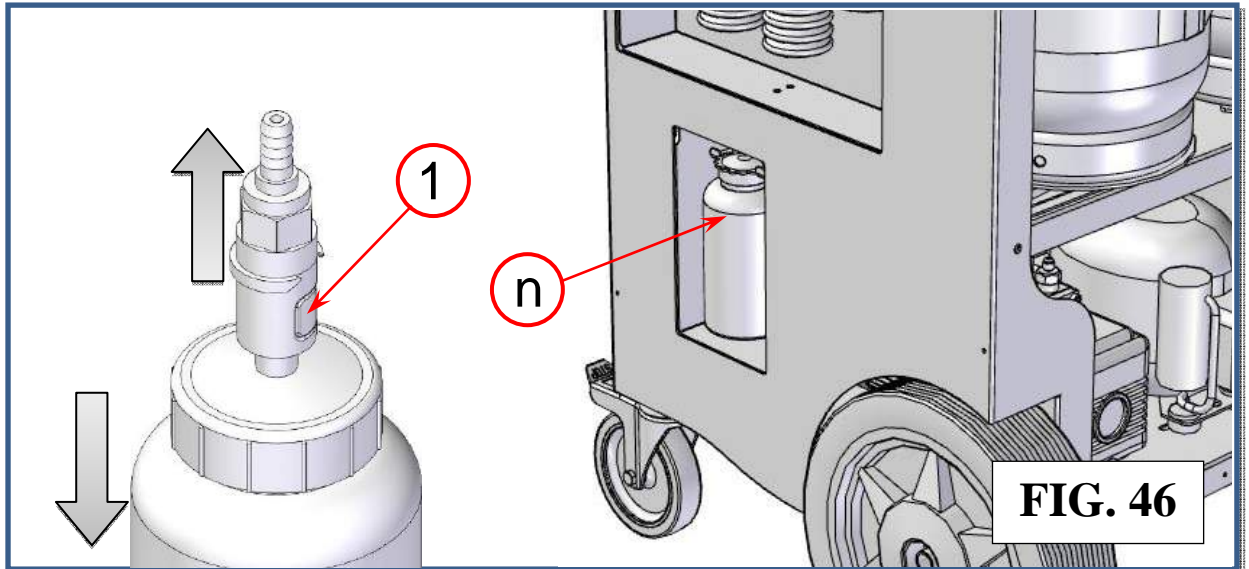

FIG. 46
1. Press quick connection button (ref 1, Fig.46) to disconnect the used oil container
2. Lift the used oil container out of its lodging (ref n, Fig.46) without exerting pressure on the scale.